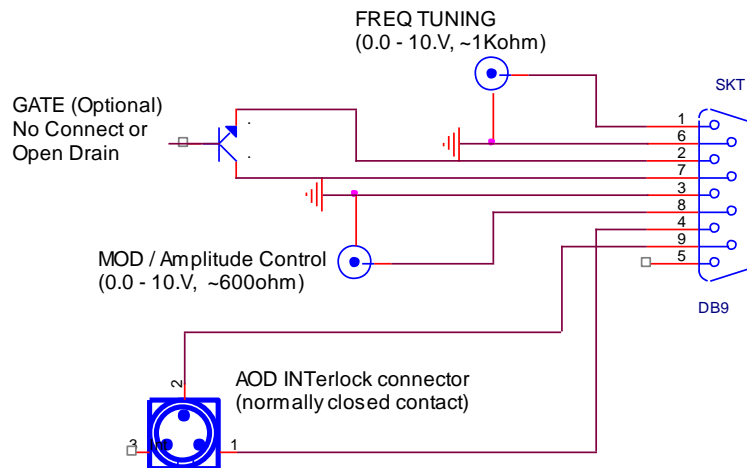

Figure 1:
4. INSTALLATION AND ADJUSTMENT (see Figures 1,4,6)